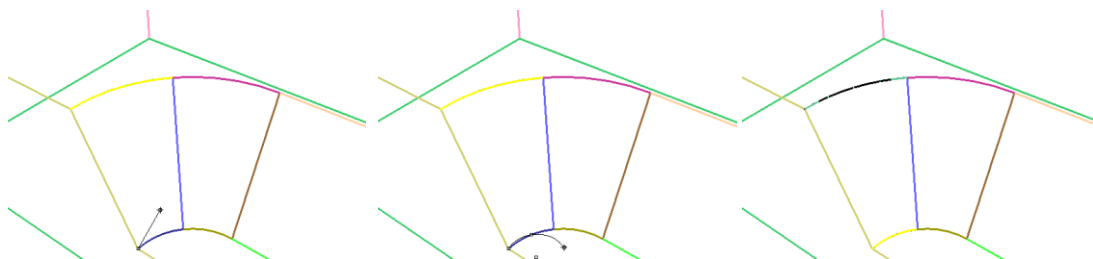

Figure 63: Building the lower curve
4. Similarly, use **Curve|Arc|Start, Point, End** to retrace the lower eighth-circle that parallels the curve you just built (Figure 63).